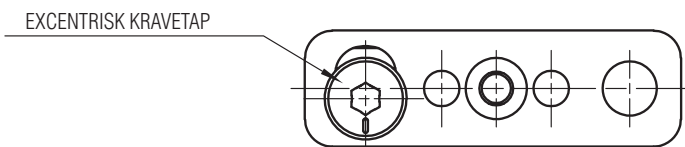

FIG. 4
4. RAMMEN KAN JUSTERES +/- 1.5 MM SIDEVEJS. EN TORX20-NØGLE ANVENDES TIL AT DREJE DEN EXCENTRISKE TAP, DER ER MONTERET I ØVERSTE OG NEDERSTE BESLAG (FIG. 4). I DET NEDERSTE BESLAG LØSNES "SKRUE TIL MONTERING" (FIG. 4) INDEN JUSTERING FORETAGES. PÅ TAPPENE ER DER ET MÆRKE, SOM VED LEVERING ER INDSTILLET I LODRET STILLING, SOM ANGIVER NUL-POSITIONEN. NÅR MÆRKET ER ENTEN I TOP ELLER BUND, DVS. VANDRET STILLING, ER BESLAGET JUSTERET UD I MAX POSITION +/- 1.5 MM.